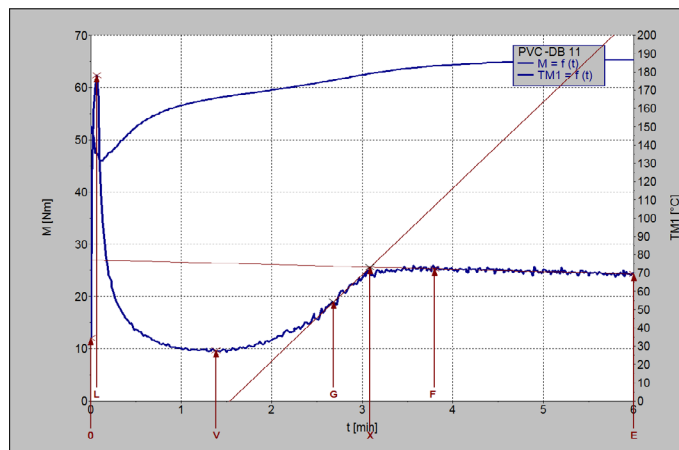

Figure 3: Evaluation of a mixer curve.
The following graph shows an evaluation of such a torque curve (Figure 3). At the beginning of the test, the loading of the PVC powder into the mixer causes an instantaneous increase of torque ("L"—Loading Peak). The powder then distributes within the mixer chamber, and some parts of the compound (e.g., waxes) melt due to the high mixer temperature. Both effects lead to a drop in torque and lead to a first minimum ("V"—Valley). Due to the increase in mass temperature and the introduced shear energy, the PVC starts to combine into bigger agglomerates. This causes an increase in viscosity, which leads to an increase in torque. This process results in a second torque maximum ("F"—Fusion Maximum). The PVC dry blend
Additionally, Figure 3 shows a straight-line intersection (X) generated by the gradient of the point of inflection (G) and the gradient around the fusion point (F). Since X is easier to reproduce than the fusion maximum (F), X is often used to compare the different fusion behavior of samples. The software generates a measuring report that documents all the results (Figure 4).